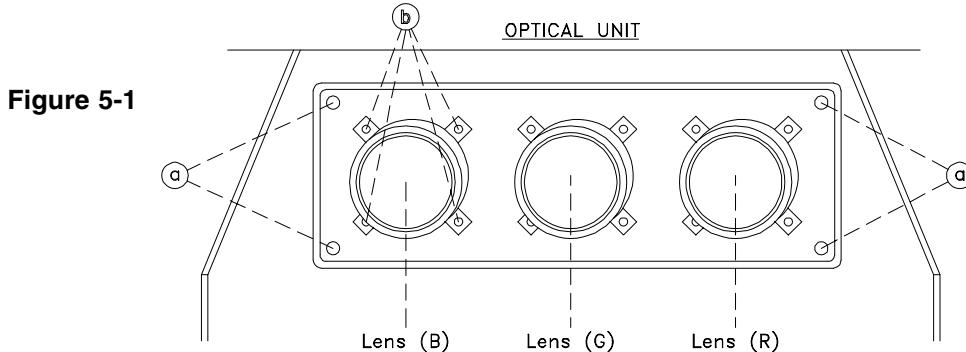

Figure 5-1
5. Remove 4 hex-screws "a" retaining the Optical Unit. [Figure 5-1]
3. Install the Lens that was removed in steps 8 and 9 of Removal Of The CRT. [Figures 5-1 and 5-2]
- b) Install the mounting screws. [Figure 5-1]